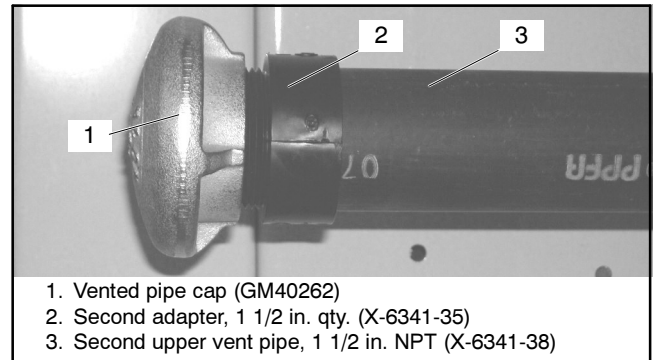

Figure 20 Attach Pipe Cap Adapter to Upper Vent Pipe
2.3.6 Use PVC adhesive and attach the second 1 1/2 in. adapter X-6341-35 to the top of second 1 1/2 in. upper vent pipe X-6341-38. See Figure 20.